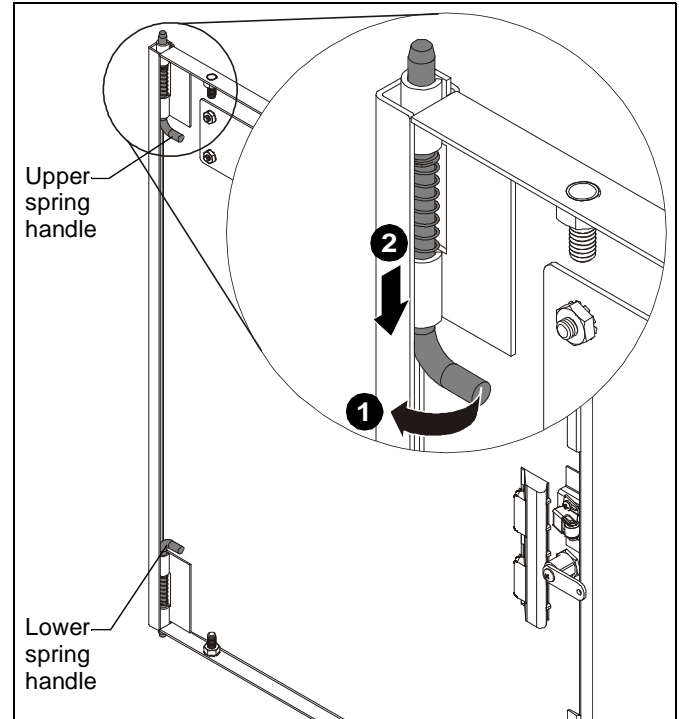

Figure 2
1. Rotate two spring handles (one at bottom and one at top) on inside of door. (See Figure 2)
2. Pull down on upper spring handle, and push up on lower spring handle. (See Figure 2)